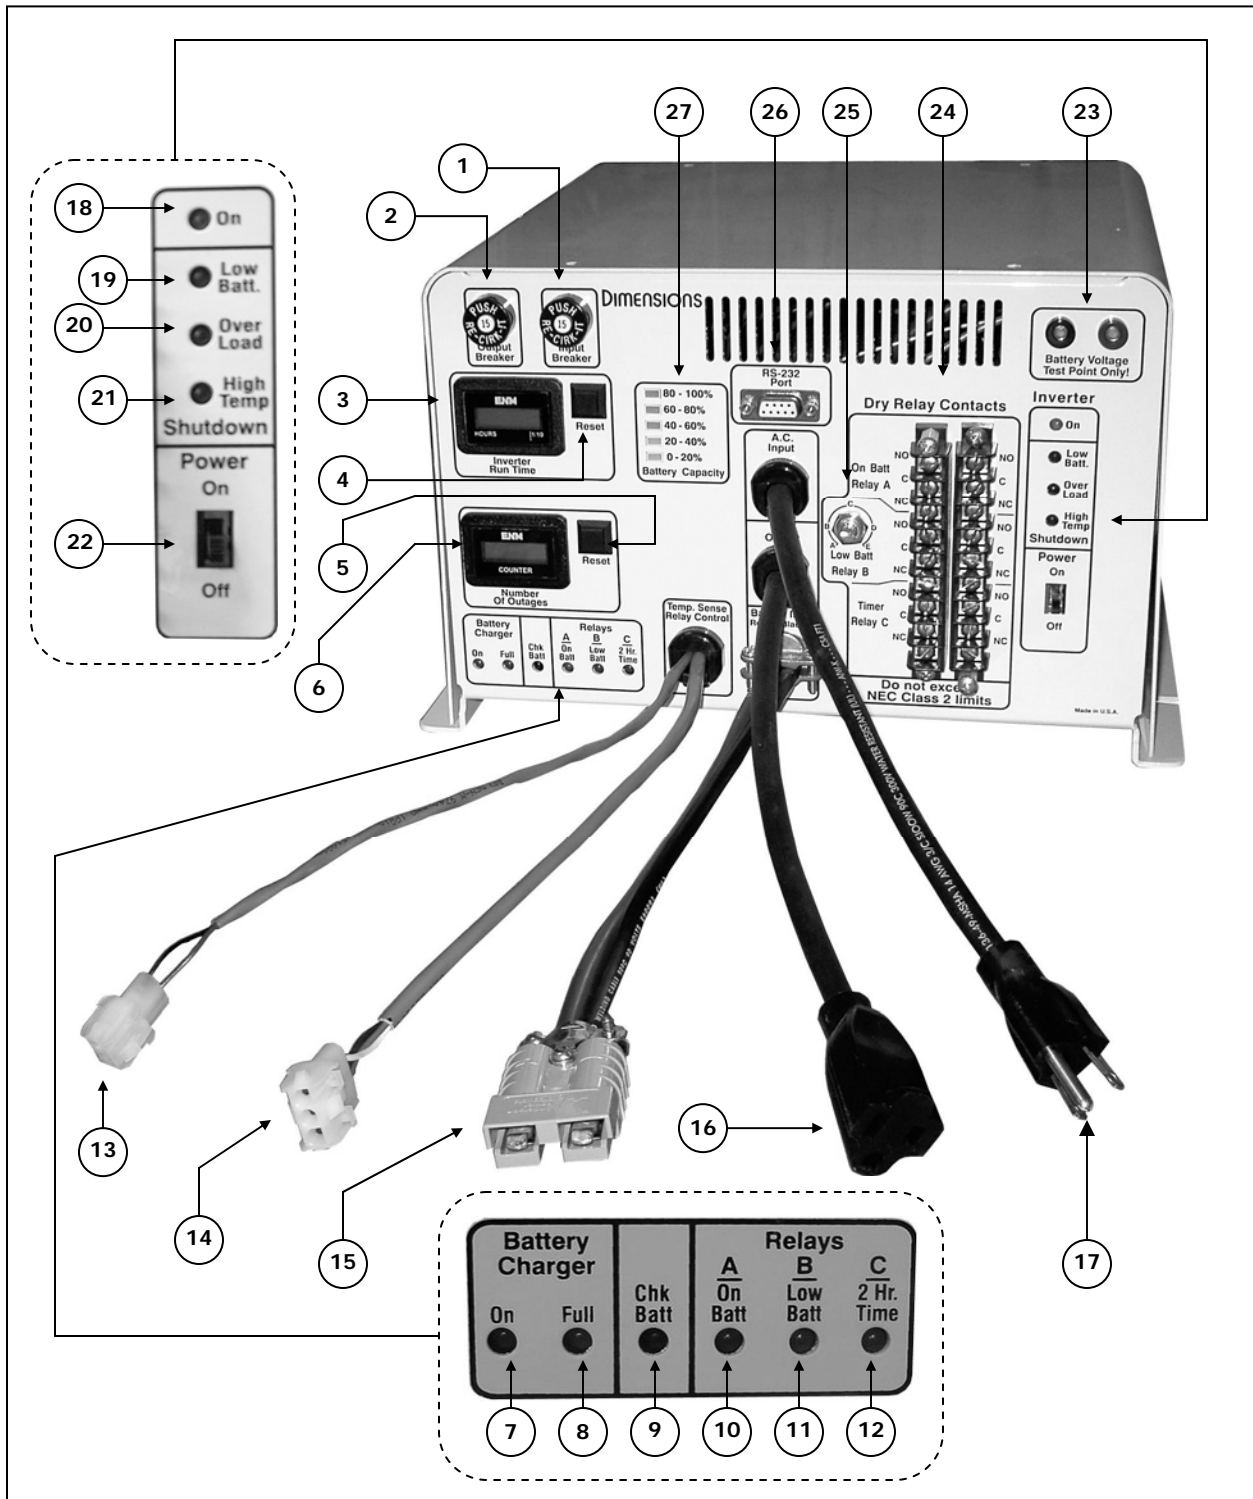

FIGURE 1: BBS Module physical description front view
- (28) **Bypass – BBS mode Switch (MBPS):** Used to isolate the BBS system from external AC power during routine maintenance.
- (29) **Terminal Connector Board (MBPS):** AC Wiring connector board
- (30) **Terminal Connector Board (30ATR):** AC Wiring connector board
- (31) **Transfer Relay Connector (30ATR):** Connects to item (12) on Figure 1, page 8 to drive the 30-amp relay.
- (32) **A.C. Input Plug Cord (30ATR):** Connects to item (10) on Figure 1, page 8
- (33) **A.C. Output Outlet Cord (30ATR):** Connects to item (11) on Figure 1, page 8
- (34) **AC Outlet Cord:** Connects to item (11) on Figure 1, page 8
- (35) **Indicator Light:** Lights to indicate the switch is in the bypass mode.
- (36) **Terminal Connector Board:** AC Wiring connector board
- (37) **Transfer Relay Connector (30ATR):** Connects to item (12) on Figure 1, page 8 to drive the 30-amp relay.
- (38) **Bypass Switch:** Used to isolate the BBS system from external AC power during routine maintenance.
- (39) **AC Input Plug Cord:** Connects to item (10) on Figure 1, page 8